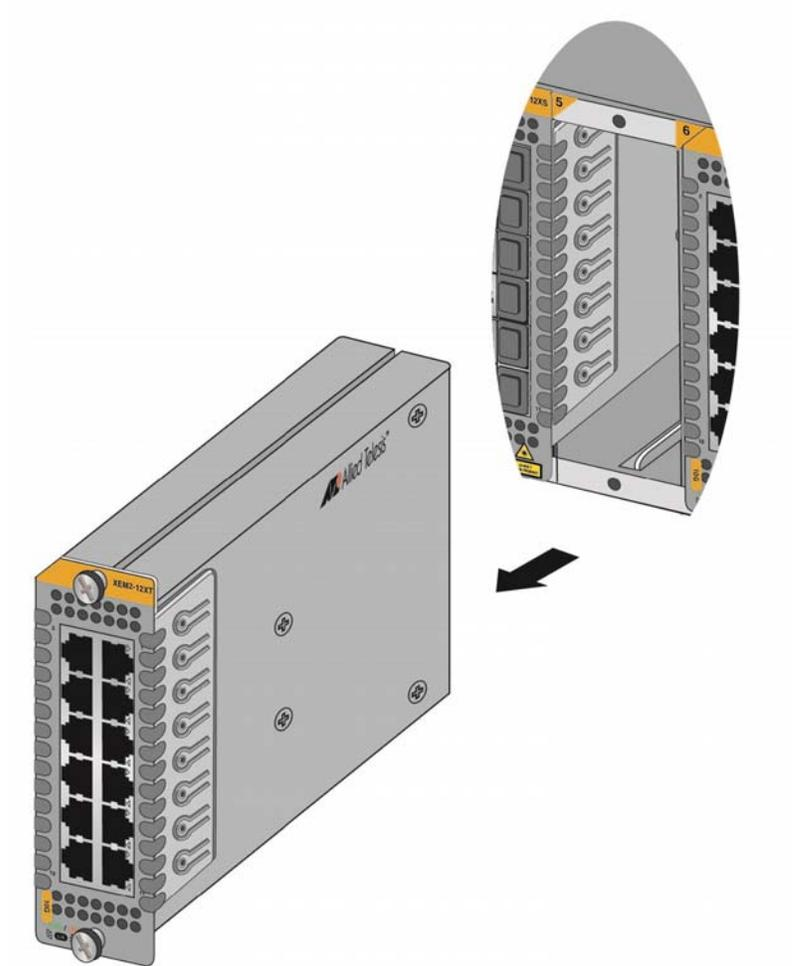

Figure 125. Sliding an Ethernet Line Card from the Chassis
6. Carefully slide the card from the chassis. Refer to Figure 125 on page 207.